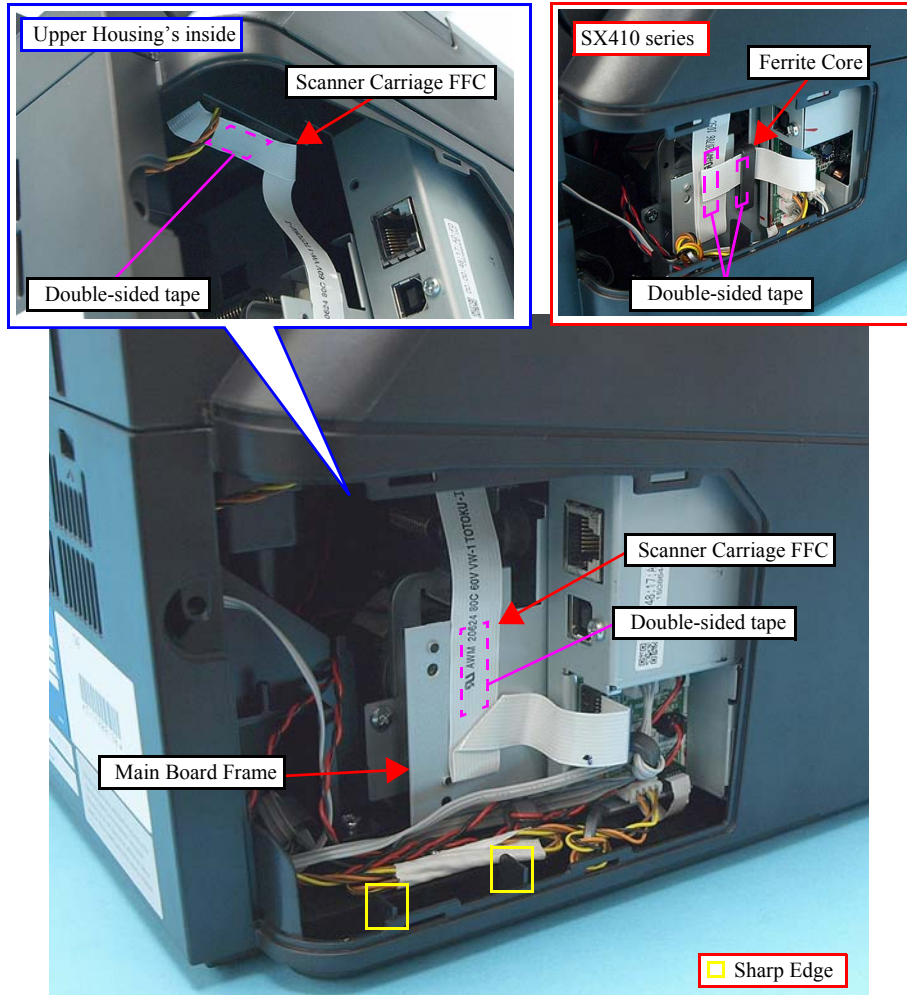

Figure 4-8. Removing the Scanner Unit (2)
Be careful of the sharp edges shown in Figure 4-8 when assembling or reassembling.
- Route the Scanner Carriage FFC and secure it to the Upper Housing and Main Board Frame with double-sided tape as shown in Figure 4-8.